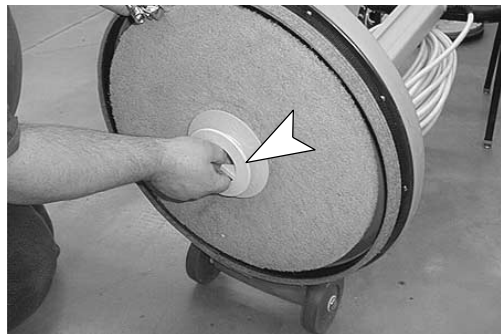

Fig. 1
1. Remove centerlock from pad (Figure 1).